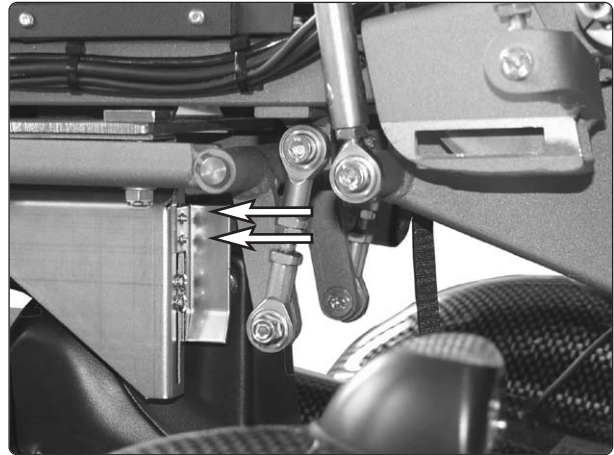

Fig. 20. The sensor cam for the half-speed adapter.
The sensor cam must always sit at the highest position on the positioning plate, see Fig. 20.
2. Loosen the two screws of the sensor cam, see Fig. 20.